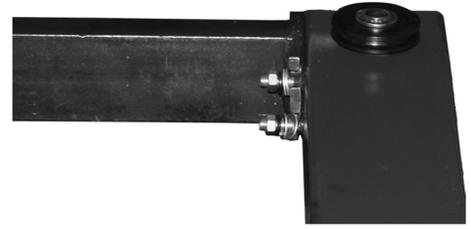

Fig. 9
3. Using a lifting device, raise the Overhead Beam assembly and connect to uprights at each end, using the bolts, nuts and washers, as shown in **(Fig. 9)**.